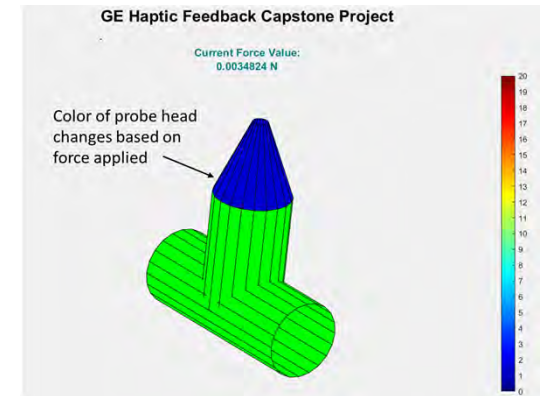

Figure 4: 3D visualization of probe
- 3D visualization (Fig 4) gives real-time view of probe orientation in space as well as force values (numerically and via heat map)